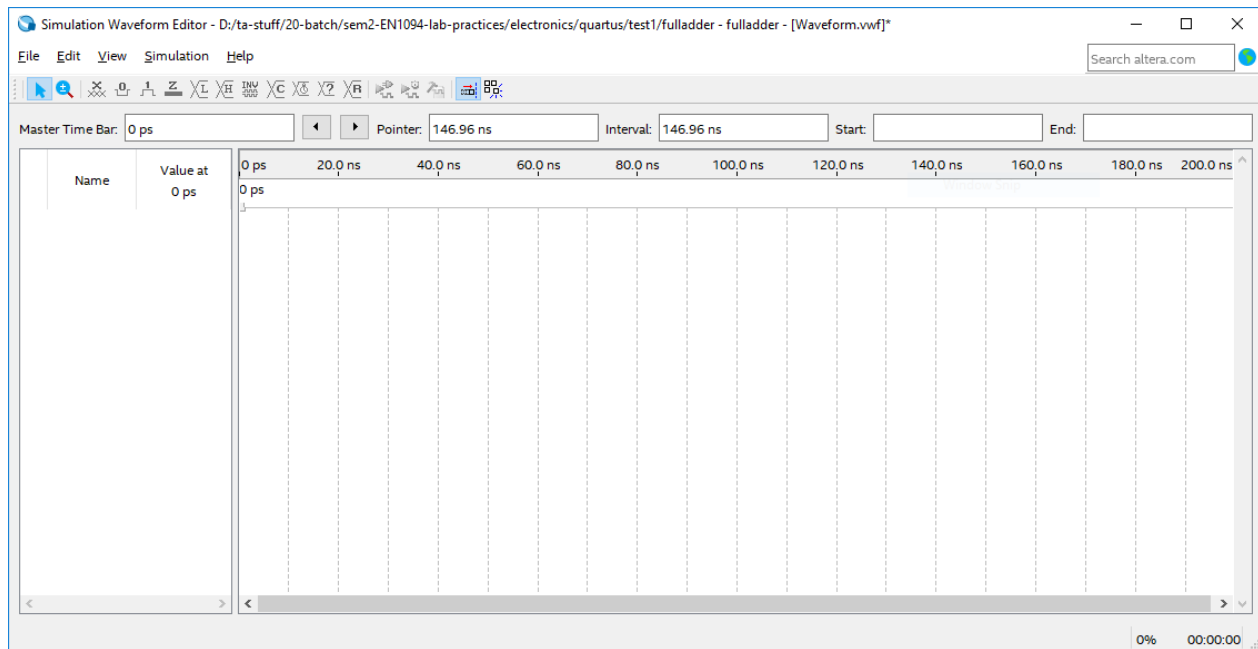

Figure 5.8: Simulation Waveform Editor
1. Click **File > New** from menu bar and add a new **University Program VWF** file listed under the **Verification/Debugging Files**. It will open up the **Simulation Waveform Editor** window (see Figure 5.8).